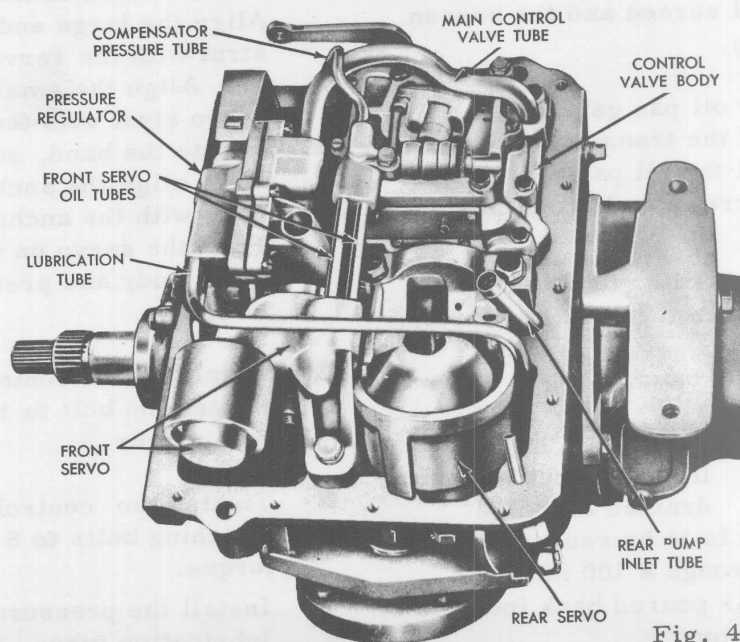

Fig. 45
**Note:** The regulator lubrication tube does not have to be removed (Fig. 45).
- ⊗ Remove the three control valve body attaching bolts. Lower the valve body while pulling it off the front servo oil tubes (Fig. 45).
- ⊗ Remove the pressure regulator lubrication tube (Fig. 45).
- ⊗ Remove the attaching bolts from the front servo (Fig. 45). Hold the strut with the fingers, then remove the servo.
- ☒ Remove the pressure regulator lubrication tube (Fig. 45).